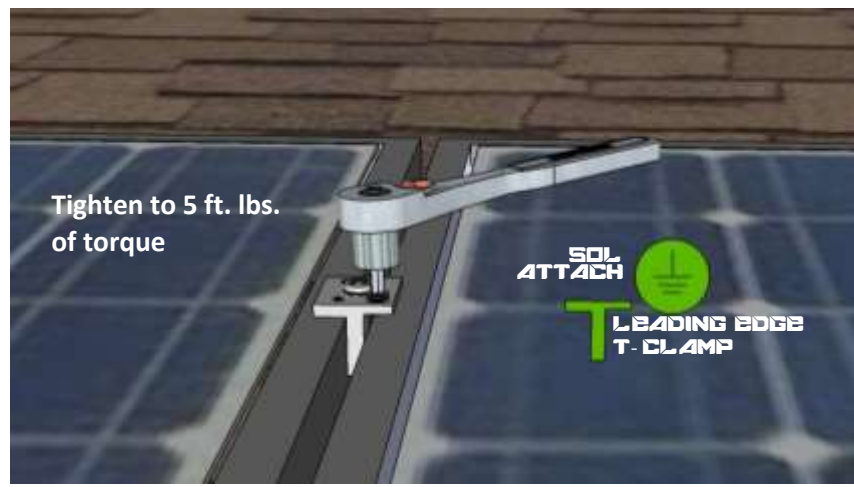

Fig 13
7. Next, tighten each single 5/16-18 cup point screw from the T clamps of the leading edge of the first module into the trailing edge of the second module to 5 ft. lbs. so that it bites through the anodized coating of the leading module (fig 13). This action helps secure the second module as well as bonds it electrically to the first.